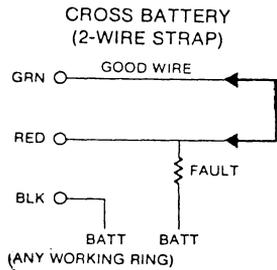

FIGURE 6
2.07 Hookup and Strapping for Crosses (2-wire strap) - For cross battery faults when only one good wire is available, connect the test cord clips as shown in Figure 6. Leave the orange clip unconnected. **Do not allow the orange clip to contact the other clips or ground** as measurement errors will result. Place a **solid strap** across the good wire and faulted wire at the far-end of the cable. If no battery is available, you may connect the black clip to ground as an alternate method.